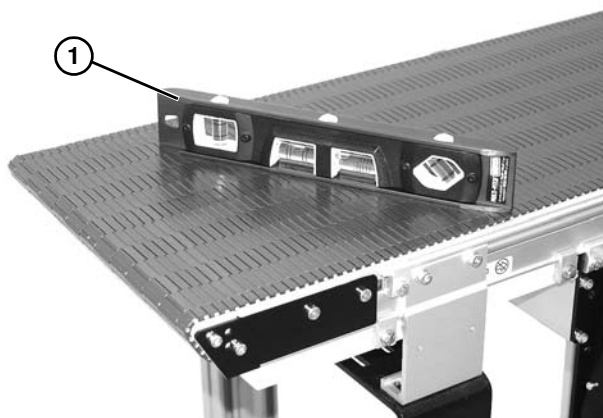

Figure 5
*Conveyor **MUST** be mounted straight, flat and level within confines of conveyor. Use a level (Figure 5, item 1) for setup.*